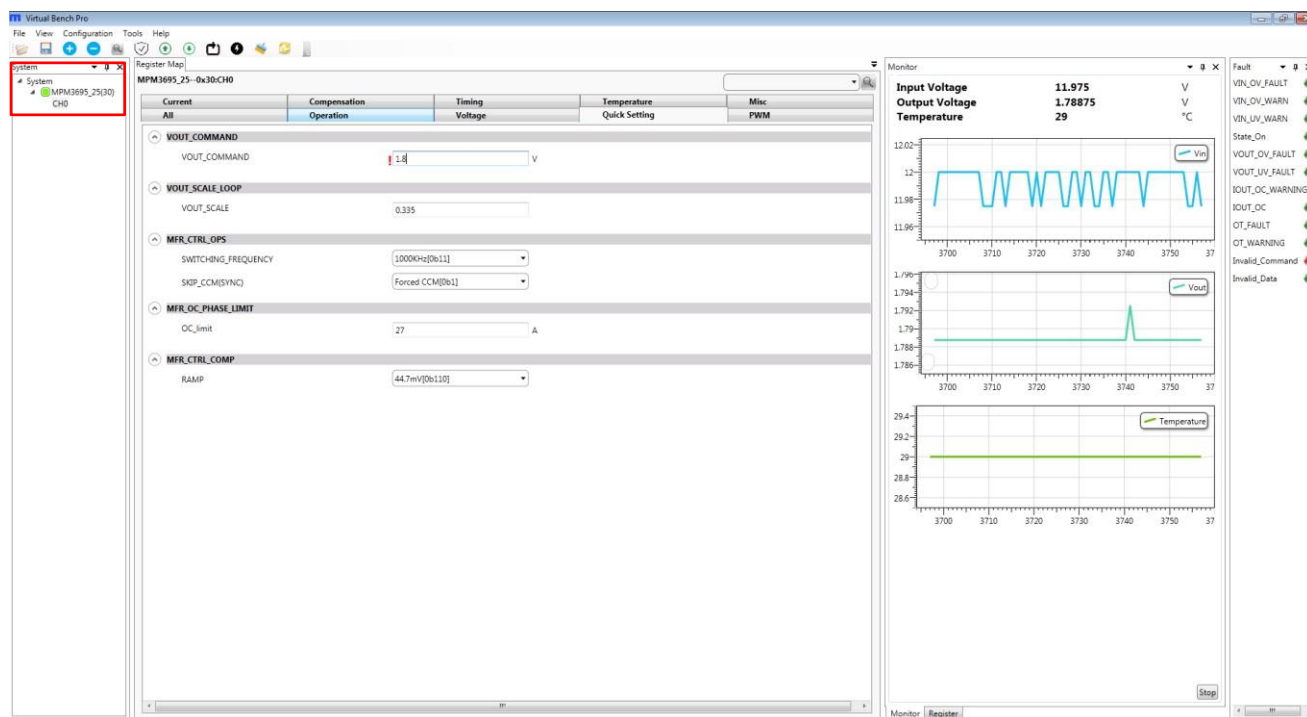

Figure 6: Green Indicator Shows Successful Connection
- If the GUI detects the power module, an address will appear below the "MPM3695-25" on the left panel. Additionally, the indicator to the left of "MPM3695-25" will turn green (see Figure 6).